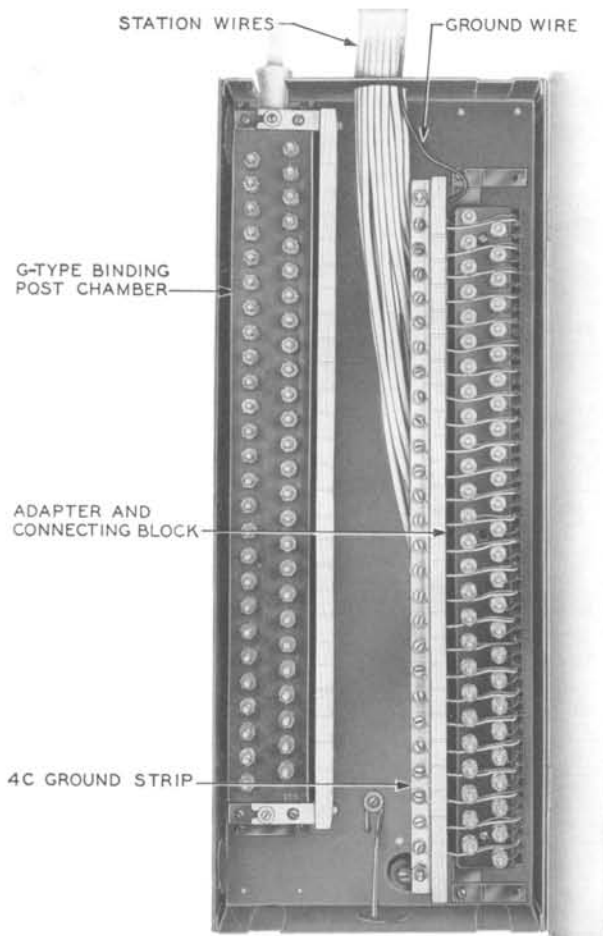

FIG. 5—TERMINATION OF JACKETED INSIDE WIRE
- The method of terminating jacketed inside wire at a GC-type cable terminal is shown in Fig. 5.